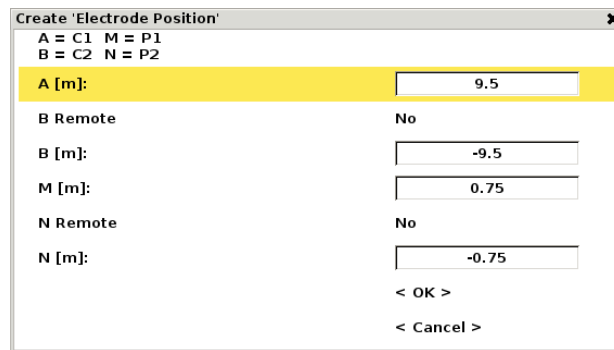

Figure 54 Create Electrode Position dialog
- Press <OK>, the Create Electrode Position dialog will be shown (Figure 54)